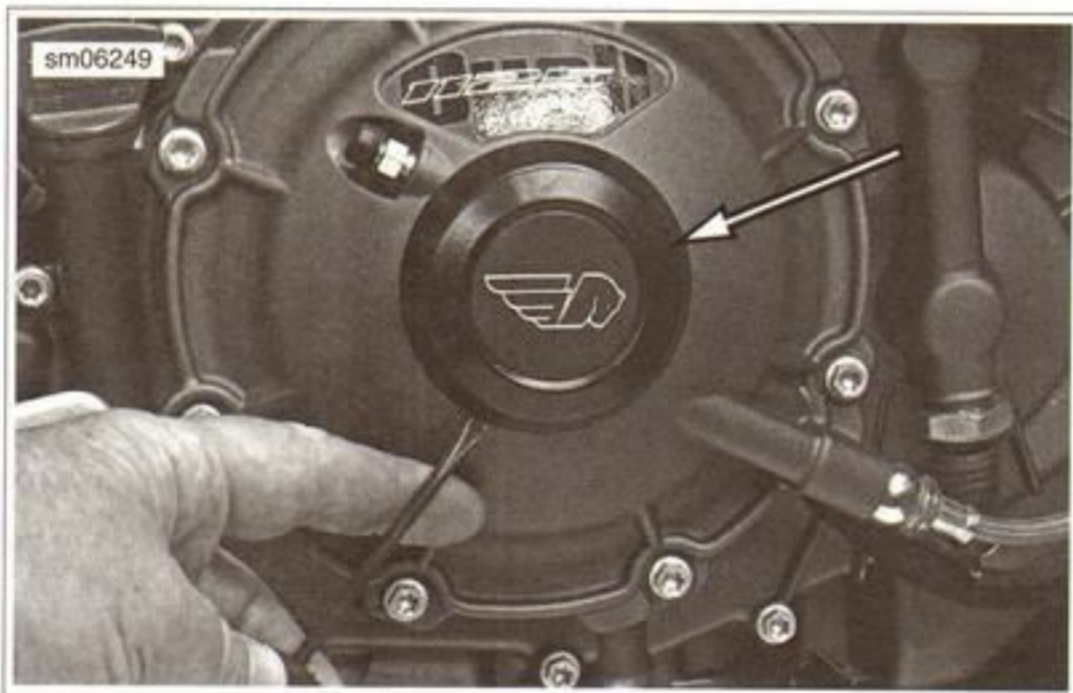

Figure 6-15. Secondary Clutch Actuator Cover Plug
4. See Figure 6-15. Pry out the plastic plug from the cover.